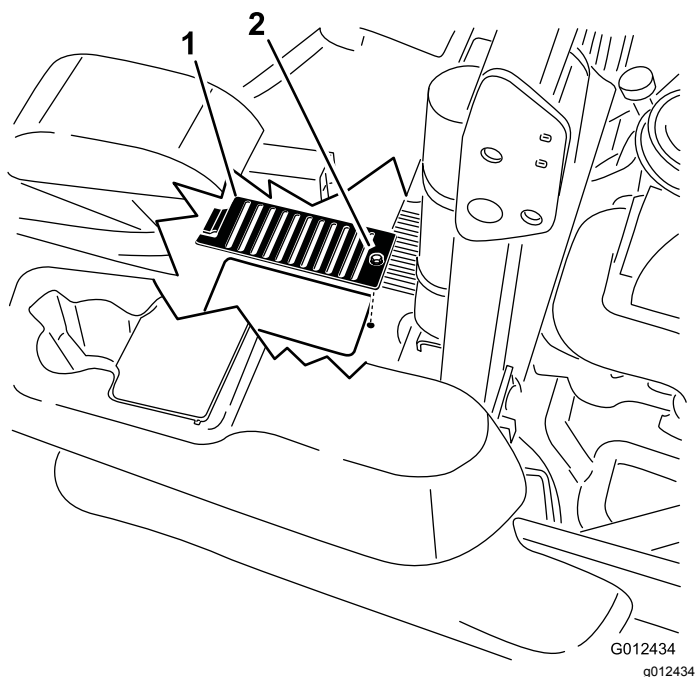

Figure 81
6. Over each dipstick, remove the cover and the bolt attached to the cover. Clean around each dipstick and hydraulic unit (Figure 81).